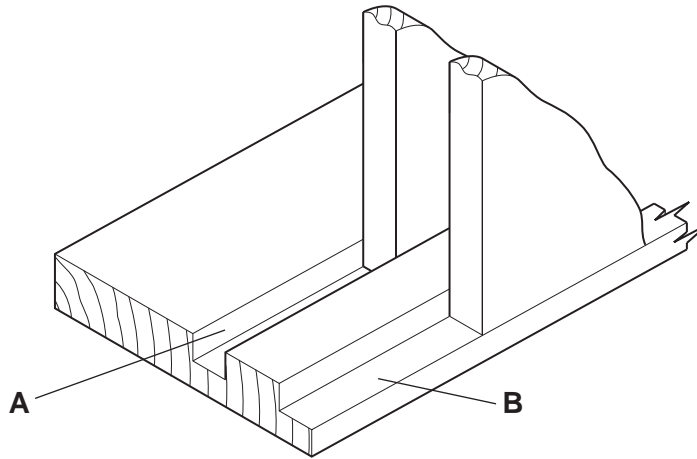

Fig. 1
- 1 Fig. 1 shows two cutouts which are used to house manufactured boards in the construction of drawers and cabinets.